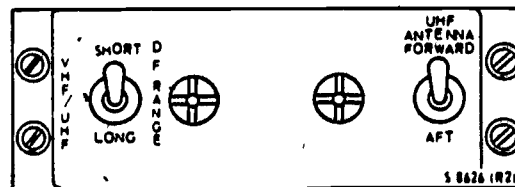

Figure 6-17. - UHF switch panel.
The antenna selector switch, marked FORWARD and AFT, is on the UHF ANTENNA switch panel (figure 6-17) located on the center console.
2. Antenna Switch (UHF ANTENNA Switch Panel) - AS REQUIRED. (See figure 6-17.)